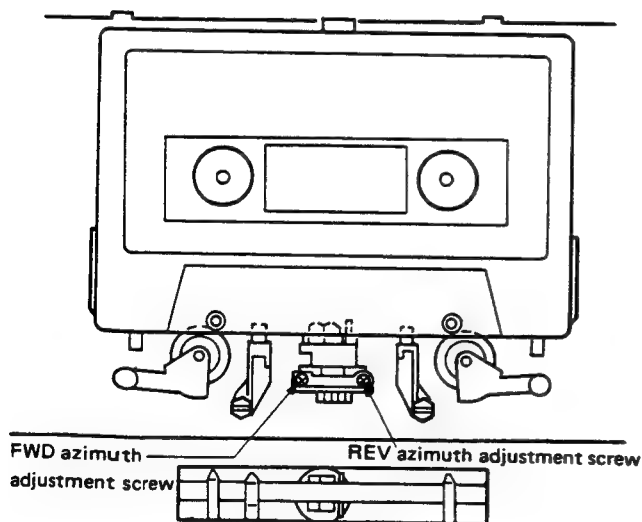

Fig. 7-4 Head azimuth adjustment
| NORM | PLAY | Play back 10kHz, -20dB with STD-331B test tape | | Head angle adjustment screw (Fig. 7-4) | TP501 (L) TP502(R) | Maximum playback signal level | Lock screw after completion of adjustment. |
| NORM | PLAY | Playback 10kHz, -20dB with STD-331B test tape | | Head angle adjustment screw (Fig. 7-4) | TP501 (L) TP502(R) | Maximum playback signal level | Lock screw after completion of adjustment |